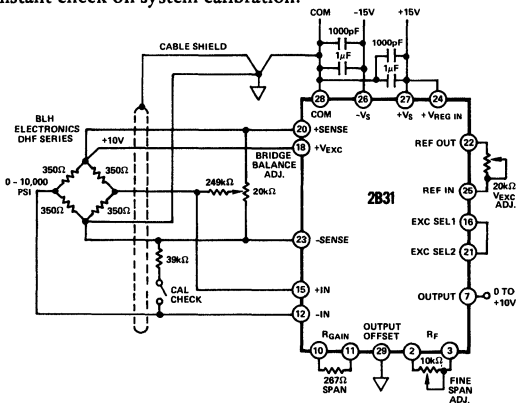

Figure 6. Pressure Transducer Interface Application
**Pressure Transducer Interface:** A strain gage type pressure transducer (BLH Electronics, DHF Series) is interfaced by the 2B31 in Figure 6. The 2B31 supplies regulated excitation (+10V) to the transducer and operates at a gain of 333.3 to achieve 0-10V output for 0-10,000 p.s.i. at the pressure transducer. Bridge Balance potentiometer is used to cancel out any offset which may be present and the Fine Span potentiometer adjustment accurately sets the full scale output. Depressing the calibration check pushbutton switch shunts a system calibration resistor (RCAL) across the transducer bridge to give an instant check on system calibration.